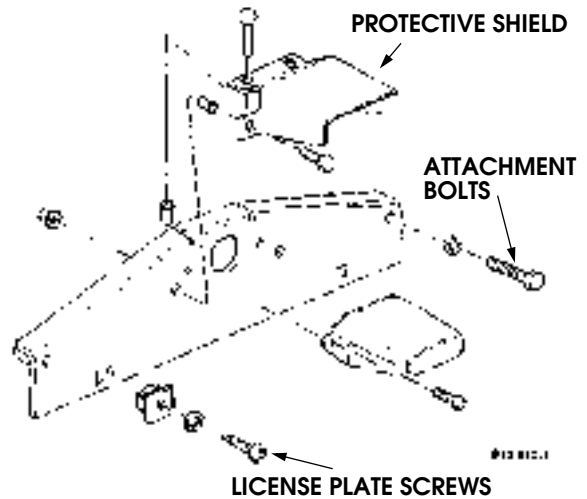

Figure 10-120: Rear License Plate Bracket
2. Remove two screws, lockwashers, license plate, and two grommets from bracket (Figure 10-120).
1. Secure light bracket to bracket with two screws and nut and lockwasher assemblies (Figure 10-120).